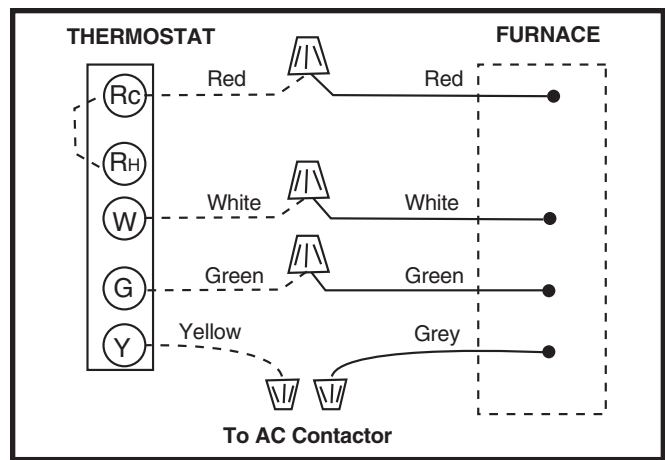

Figure 25. Thermostat Wiring
Proper line voltage polarity must be maintained in order for the control system to operate correctly. Verify the incoming neutral line is connected to the white wire and the incoming "hot" line is connected to the black wire. The furnace will not operate unless the polarity and ground are properly connected as shown in Figure 25 \(page 14\).
2. Connect the thermostat wires to the furnace low voltage pigtails (dependent on the installation application). See Figure 25 \(page 14\).